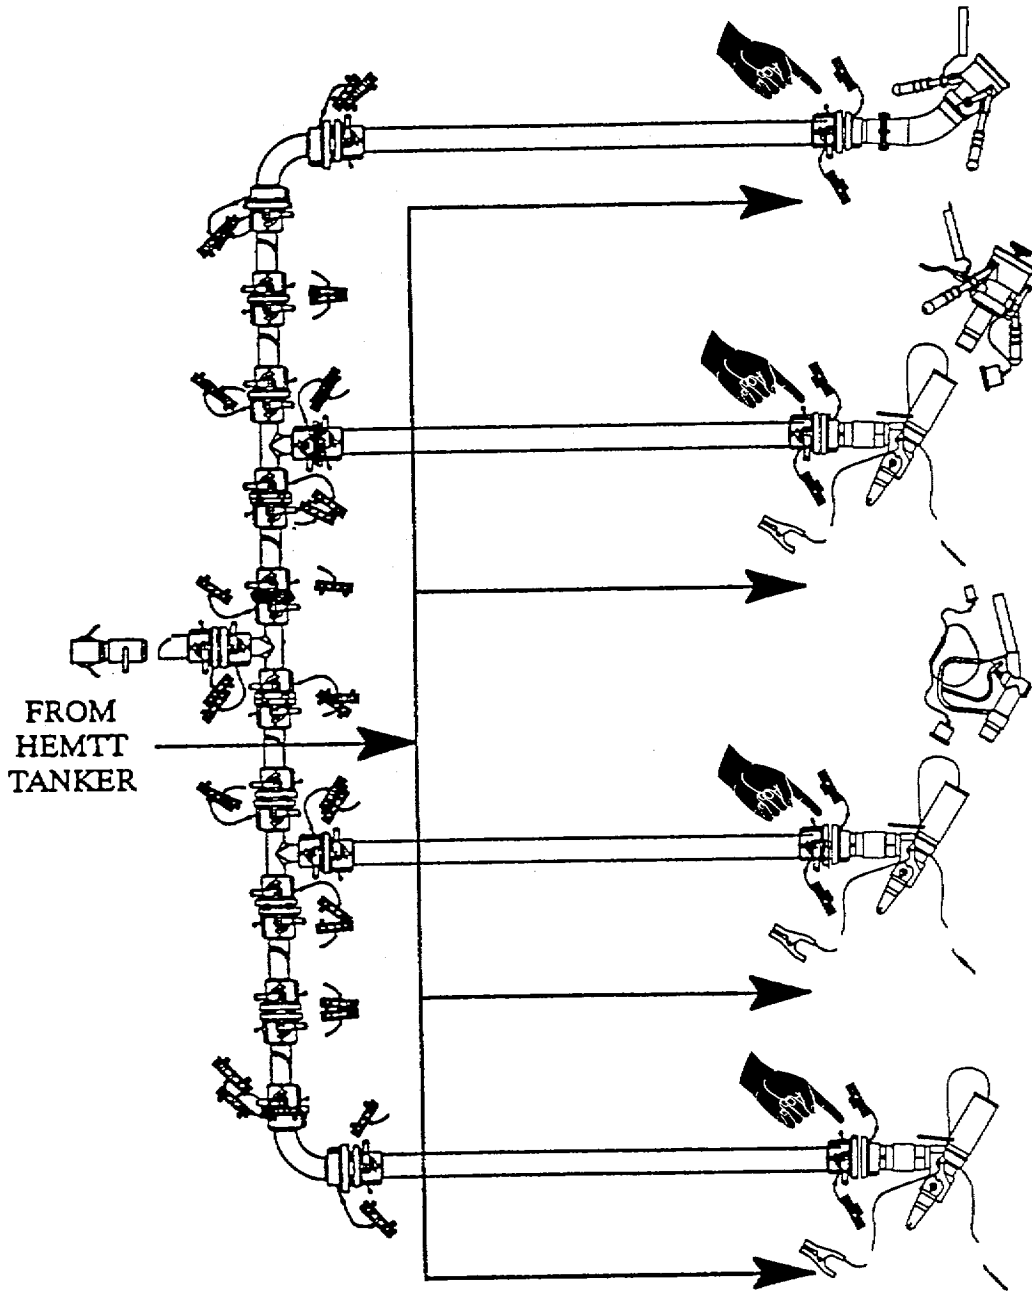

Figure 1-2. HTARS Flow Diagram.
- b. Fuel Distribution and Control. (Refer to figure 1-2) Fuel required to operate the HTARS is supplied by the HEMTT tanker and distributed through the 3-inch supply hose to the network of 2-inch hoses, tees and elbows that make up the four refueling points. Fuel flow through the system is controlled by opening or closing the valves located on each hose and tee coupling. In the event of a fuel leak, the defective component can be isolated by closing the nearest upstream and downstream coupling valves. Once isolated, the defective component can be replaced without interrupting fuel flow through the remaining refueling points.